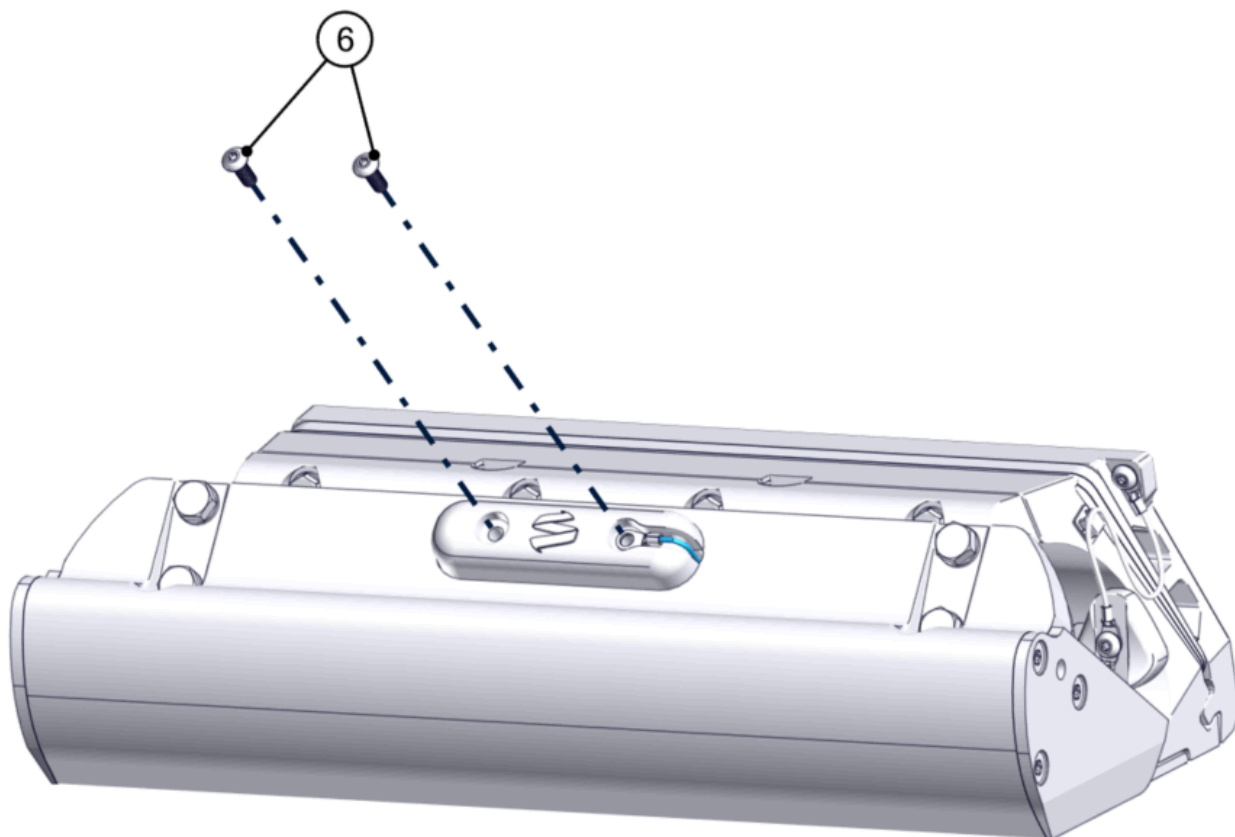

Figure 74 – Blade Anode Installation
17. Install the Blade Anode using two M5-0.8 x 20 mm Button Head Screws. Slide the other terminal end of the bonding wire over the right-hand side screw while inserting. (Figure 74 – Blade Anode Installation)